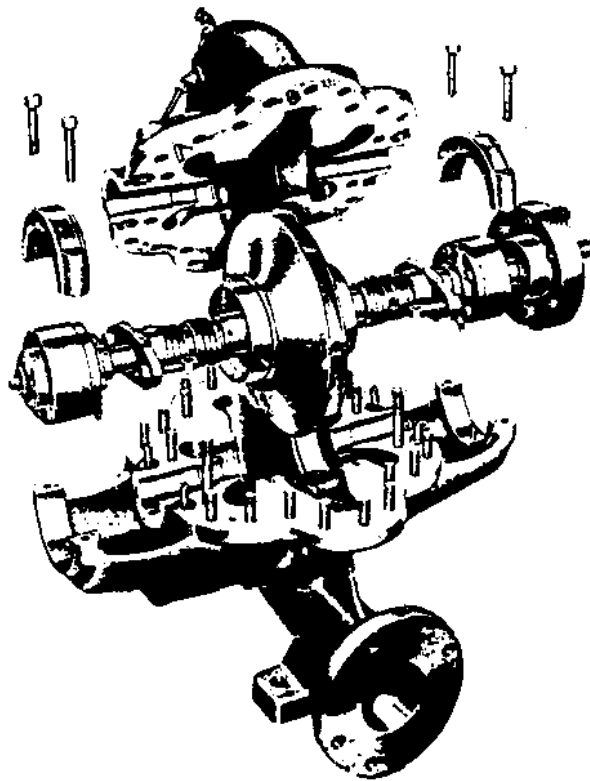

Figure 5
- (b) Axially split casing, Figure 5. The plane of split runs through the axis of the shaft.